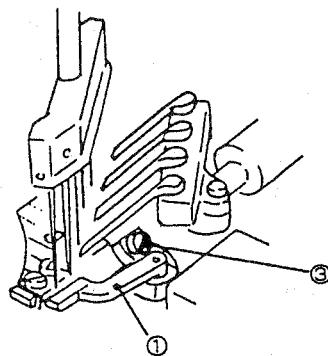

Fig.22
[5] ADJUSTING FEED DOG (Figs. 22 -23)
(1) Feed dog tilt (Fig. 22)